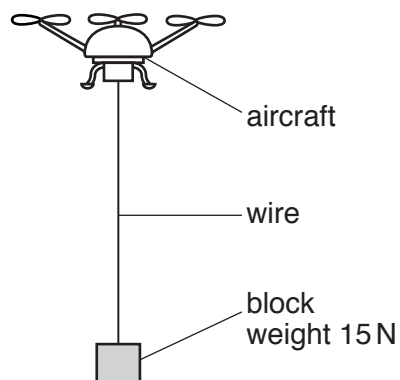

Fig. 2.1
- (b) A block of weight 15 N hangs by a wire from a remotely controlled aircraft, as shown in Fig. 2.1.